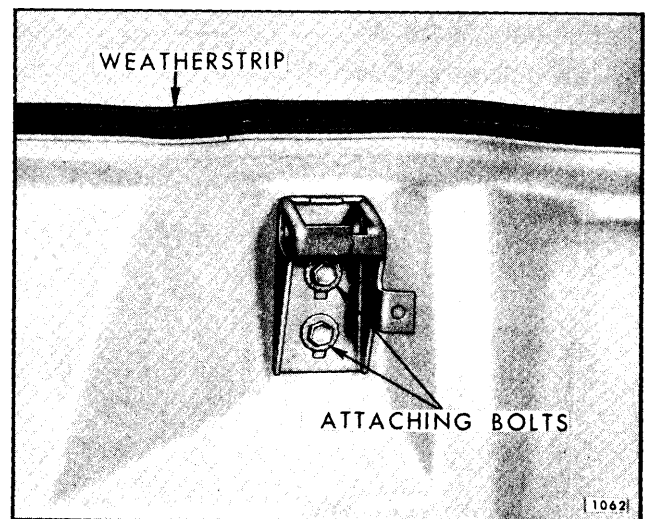

Fig. 8-13—Engine Compartment Lid Latch Striker - "Z" Styles
2. Remove attaching bolts and remove striker from body (see Fig. 8-13).